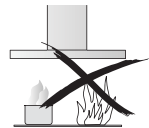

Fig. 2
- Do not leave lit gas burners exposed due to the risk of fire.(Fig.2)